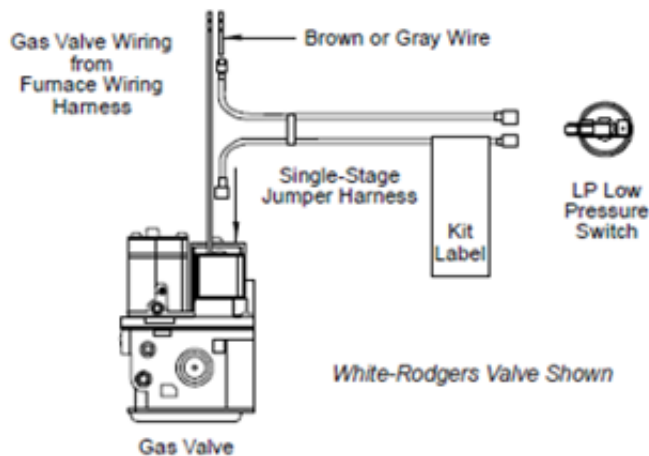
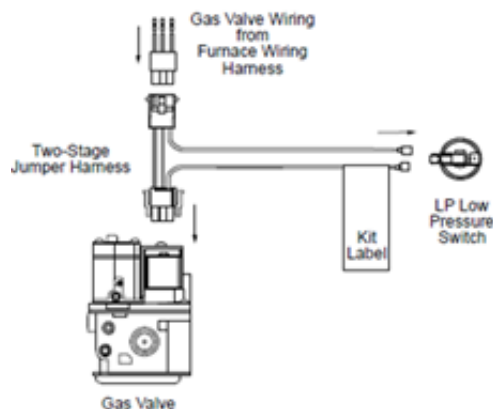

Figure 4
Figure 5
- Turn OFF power to furnace. Connect jumper harness between LPLP switch and gas valve and gas valve wiring as indicated in Figure 4 (single-stage models - some models may require the use of long single-stage harness) or Figure 5 (two-stage models). Some two-stage models may require the use of long jumper wires to accommodate connection of the switch. (2nd long jumper wire can be taken from long single stage harness.)